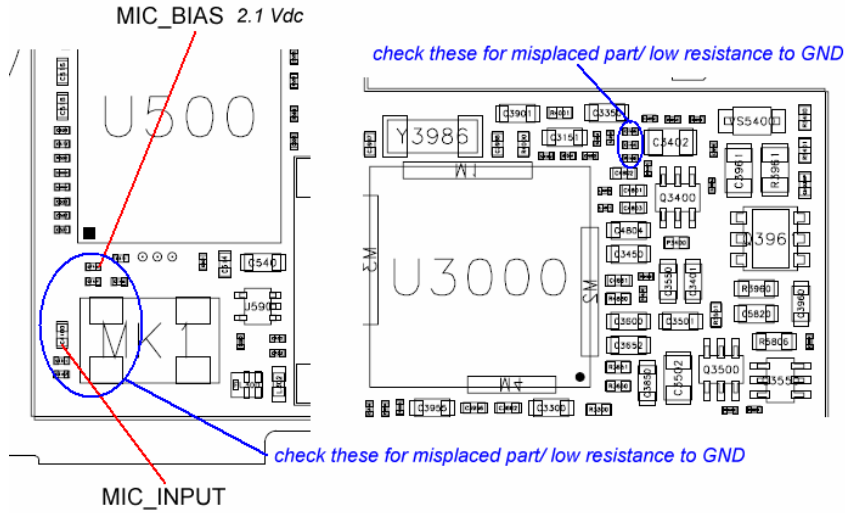

Figure 15
c) if not, check for misplaced/defective parts as shown in *Figure 15*.